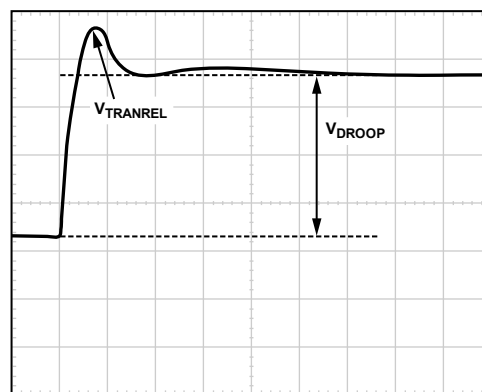

Figure 43. Transient Setting Waveform, Load Release
3. For load release (see Figure 43), if $V_{TRANREL}$ is larger than the value specified by IMVP-6+, a greater percentage of output capacitance is needed. Either increase the capacitance directly or decrease the inductor values. (If inductors are changed, however, it will be necessary to redesign the circuit using the information from the spreadsheet and to repeat all tuning guide procedures).